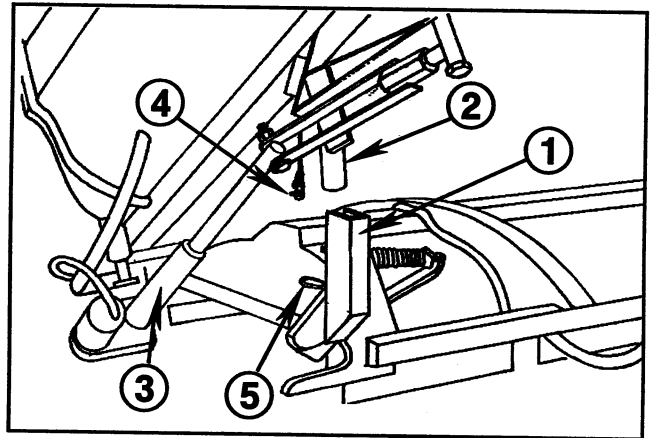

FIG 2.
4. Walk with the boom towards the sprayer. Insert the transport pin into the receiver. Be sure to secure the safety clip to the forward loop. See FIG. 2.